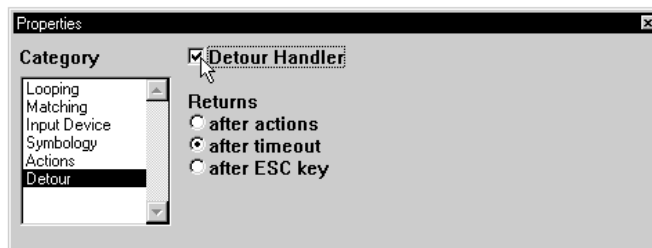

Figure 4-44 Properties Window - Detour Handler Selected
- Click the Detour Handler selection box to make the selected Input Handlers into Detour Handlers (Figure 4-44).